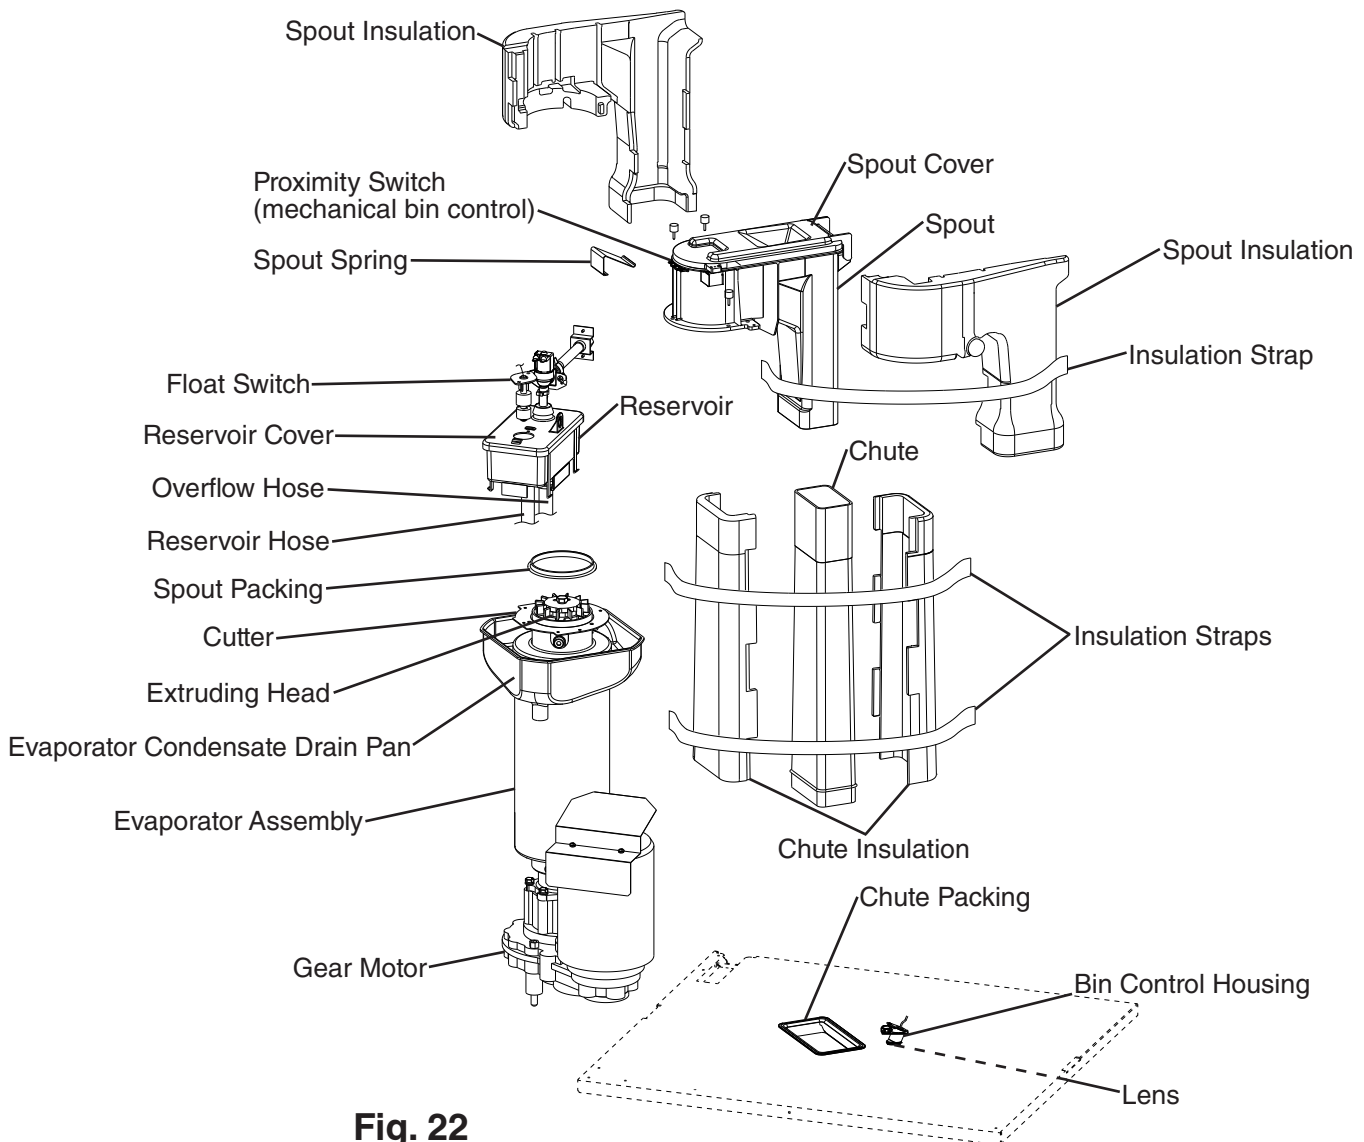

Fig. 22
- 6) Remove the spout spring, then open the spout cover. See Fig. 22.